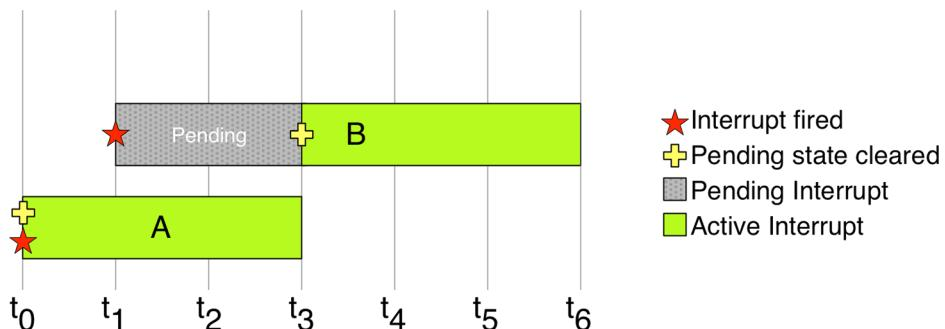

Figure 7.7: The relation between the pending bit and the interrupt active status
**Figure 7.7** shows how this works. Interrupt A fires at the time  $t_0$  and, since the CPU is not servicing another interrupt, its pending bit is cleared and its execution starts immediately8 (the interrupt becomes *active*). At the time  $t_1$  the B interrupt fires, but here we suppose that it has a lower priority than A. So, it is left in pending state until the A ISR concludes its operations. When this happens, the pending bit is automatically cleared and the ISR becomes *active*.